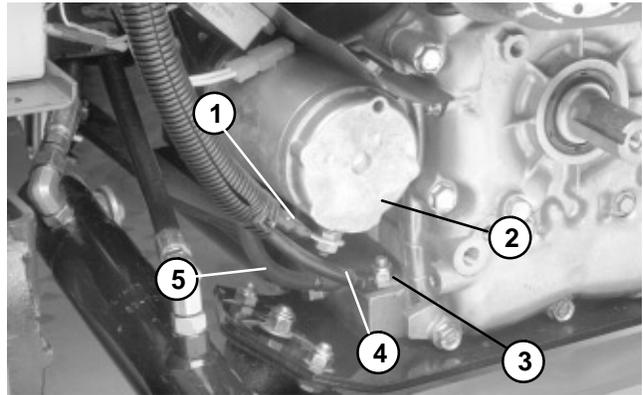

Figure 47
10. Disconnect red positive cable cable (solenoid) from the starter (Fig. 47).
11. Remove lock nut and cap screw securing black ground wire and black battery cable (negative) to the engine block. Pull cable and harness clear of the engine (Fig. 47).
- D. Insert cap screw through engine base and engine block. Connect black ground wire and black battery cable (negative) to the cap screw. Screw lock nut onto the cap screw (Fig. 47).
2. Connect red positive cable cable (solenoid) to the starter (Fig. 47).